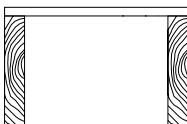

Figure 19E
5. Use (2) 14-1/2" and (2) 17" 2 x 12's to construct the box sides. Nail the 3/4" plywood fixture to the box. See **Figure 19E**.